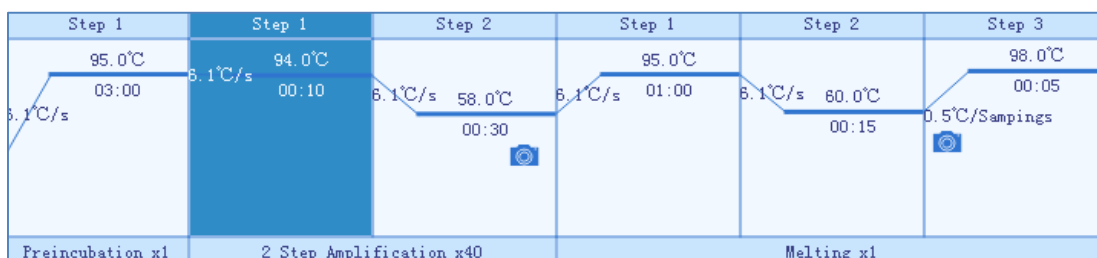

Figure E-3.1 Temperature Setting sub-tab - Example temperature program
6. **Temperature program area:** after stage or step setting, the temperature program area will display the current temperature program, as shown in figure E-3.1. The parameter descriptions are same with those introduced in D-2.2 Run Setting - Introduction to Temperature Program Area.